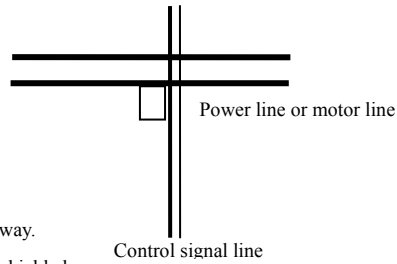

Figure 3-16 System Wiring Requirement
- (4) PE grounding cable of inverter shall not grounded by using the grounding line of other equipment, and shall be grounded directly with the earth.
- (5) Control signal line shall not be wired in parallel and close to strong-current wire (R, S, T or R, T and U, V, W), and shall not be bundled together but to kept 20-60cm (related to strong current) away from each other. If they need to be wired by crossing, they shall be vertical to each other as shown in Figure 3-16.
- (6) Weak-current grounding line of control signal and sensor and strong grounding line shall be grounded respectively and separately.
- (7) It is not allowed to connect other devices at the power input terminal (R, S, T or R, T).